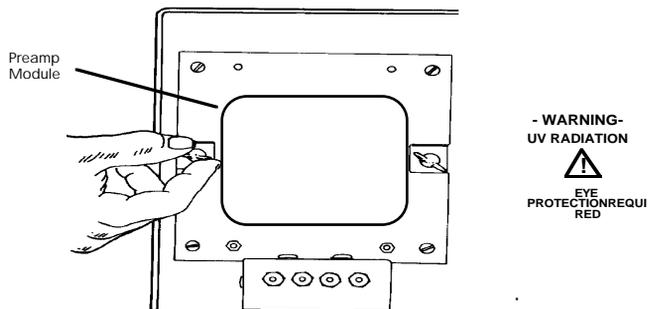

Figure 5-3 Removing the Pre-amp Module
4. Turn the two wing nuts counterclockwise to loosen the pre-amp module (Figure 5-3). Pull the pre-amp module away from the chassis. The ribbon cable is still connected to the microprocessor board.
Figure 5-3 illustrates the pre-amp module removal procedure.